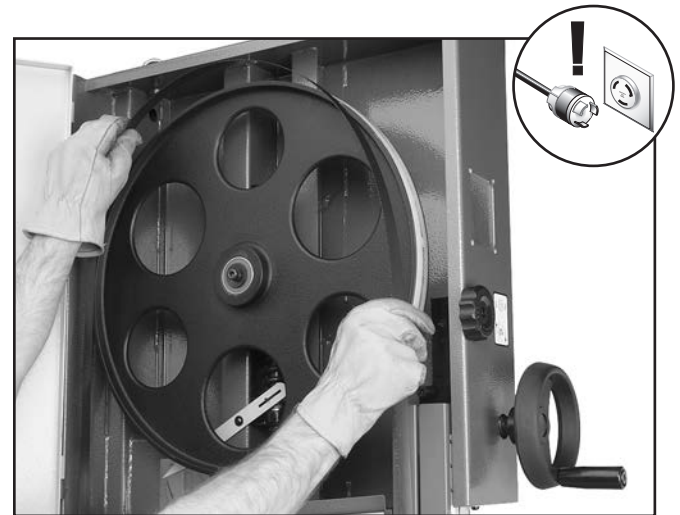

Figure 64. Example of placing blade on the wheels.
2. Slip the blade through the guides, and mount it on the upper and lower wheels (see **Figure 64**).